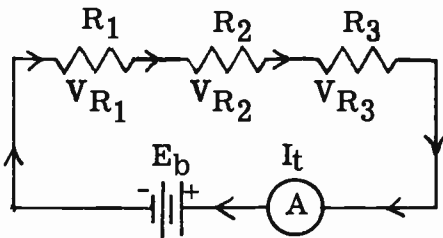
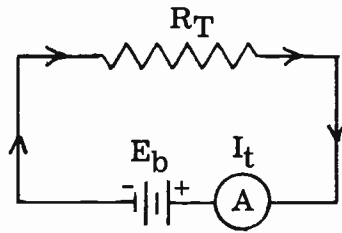

FIG. 2-5A. SERIES CIRCUIT.
FIG. 2-5B. EQUIVALENT CIRCUIT.
**RESISTORS IN SERIES.** If two or more resistors are connected end to end, as shown in Fig. 2-5A, we say that the resistors are connected in a **SERIES CIRCUIT**. Any current flowing through one of the resistors will also flow through the others. The arrows indicate the direction of current flow.
It is important to note that the current in Fig. 2-5A will remain unchanged if the three resistors are replaced by a single resistor whose resistance value is equal to the sum of the three resistors. Fig. 2-5B illustrates the equivalent circuit of Fig. 2-5A. We can, therefore, say that **THE TOTAL RESISTANCE IN A SERIES CIRCUIT IS EQUAL TO THE SUM OF THE INDIVIDUAL RESISTANCES**.